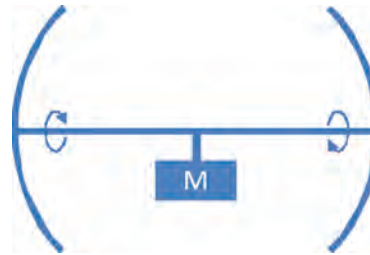

Figure 2: Tuning fork under torsion
the Alpha caliber, an extension tuning-fork, and, at the very beginning of the 1970s, the Gamma caliber using a torsion tuning fork as represented in Figure 2. This steel tuning fork was composed of a torsion bar (horizontal line on the diagram) fixed at its center by a foot that was a part of the watch frame (M). The arm occupied the full diameter of the timepiece and was terminated at each extremity by a rotating weight representing the resonator's inertial component. These two weights oscillated in opposing phase, cancelling the net moment applied to the watch. Resonator driving and the capture of its movement were similar to those of the Hertzell tuning fork. Although the position error had this time nearly been canceled, the disadvantages 1 and 3 still largely existed. In view of the emerging quartz watch, the Gamma caliber was abandoned in 1971 and all R&D activities in the acoustic resonator domain were interrupted.